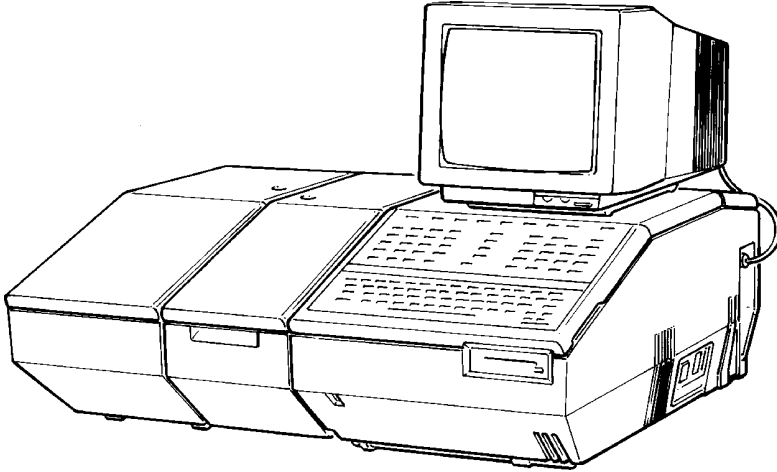

Figure 12 The Spectrum RX I and the Screen
4. Position the screen on top of the Spectrum RX I as shown in Figure 12.